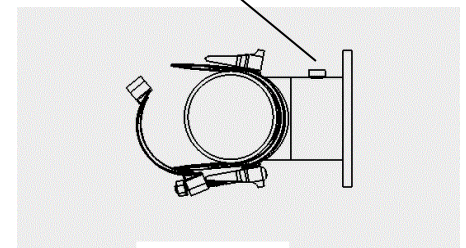

Fig. 1
**Step 3.** Per Figure 1, the lower shell on the 4", 6", and 8" sizes may be hinged away for assembly to the main pipe. Units larger than 8" require disassembly prior to installation, and cannot be hinged. The sleeve may be assembled to the pipe in the vertical position, then tuck the upper gasket edges beneath the lower shell, install bolts, and hand tighten. **Make sure that the upper gasket end tapers are laying flat against the main pipe.** Bolt heads may be oriented in either direction. Hand tighten all nuts and washers uniformly, then move sleeve to final (i.e. horizontal) position before beginning torque take-up. Sleeve must be assembled and installed in final position prior to tightening bolts to final torque. Note: Test port must be oriented in upright position to vent properly during pressure test. Tighten bolts, in a staggered pattern, per tightening patterns shown below in Fig. 3 to final torque, in two stages. First tighten to approximately 50% of final torque, then, tighten to 100% of final torque. Do not rotate assembled sleeve on conductor pipe after assembly. **After 15 minutes recheck bolt torque and continue with tapping process. Take care to insure that spanner shell gaps are even on both sides of the sleeve or else the sleeve will not seal properly.**